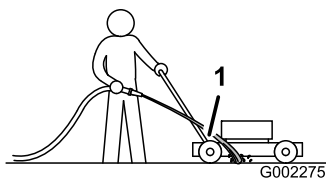

Figure 38
3. Hold the running garden hose at handle level and direct the water to flow on the ground just in front of the **right rear tire** (Figure 38).